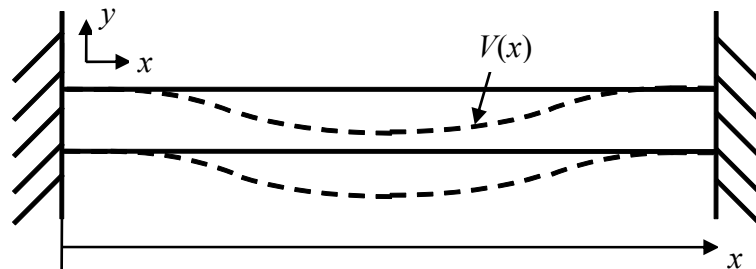

Figure 3
Find a general form of the solution to (2) that gives the mode shape of the beam, as indicated in Figure 3. (The mode shape is the shape of the beam at maximum amplitude during resonance.) This should be in terms of x , the resonance frequency ω , and some constants governed by boundary conditions, i.e., it should be expressed as $V = f(x, \omega)$, where V is a function describing the mode shape. You need not determine the values of the constants, but you should show them as variables (the same way you've done before in math courses).